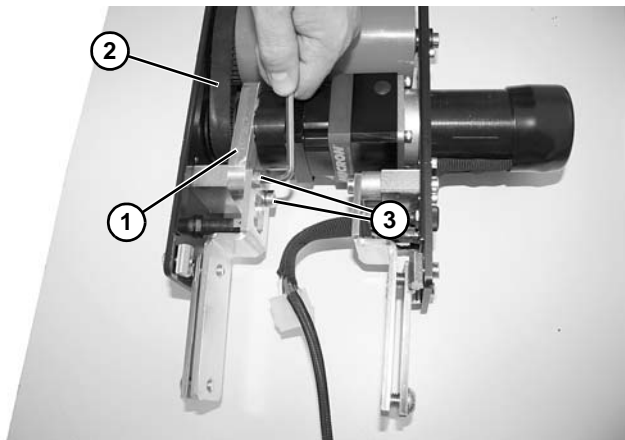

Figure 143
Move drive motor plate (**Figure 143, item 1**) to obtain 1/8 - 1/4" belt deflection at center of belt (**Figure 143, item 2**) with approximately 3-5 in-lb of pressure. Tighten two socket head screws (**Figure 143, item 3**) to 15 in-lb (1.6 Nm) to secure position.